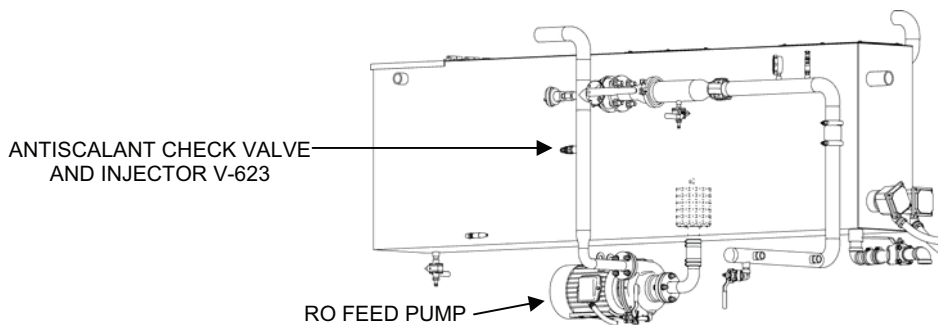

Figure 26. Antiscalant Chemical Injection Point.
- Antiscalant is injected in the RO feed pump discharge line to mix with the feed water as it is pumped to the high-pressure pumps and on to the RO vessels (see Figure 26).